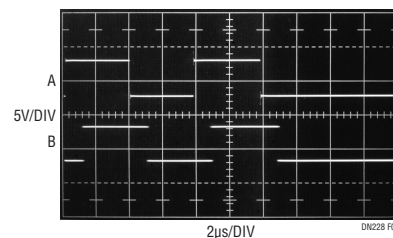
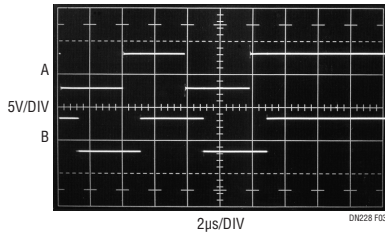

Figure 2. Positive-Going Double-Pulse Behavior: A = Driver Input, B = Receiver Output
Figure 3. Negative-Going Double-Pulse Behavior:
Internally, the two halves of the LTC1535 communicate in a ping-pong fashion, first sending transmit data to the isolated side and then sending receive data back to the nonisolated side. The sampling nature of the internal communications link means that some jitter is introduced into the data; this limits the useful baud rate to approximately 500kBd . At 350kBd , the jitter is guaranteed to be less than 10% . Figure 2 shows a double pulse propagating through the LTC1535. Waveform (A) is the transmitter data input and waveform (B) is the output of the receiver. The transmitter and receiver are looped back on the isolated side of the chip. The typical jitter is hardly visible. A negative-going double pulse is shown in Figure 3. The